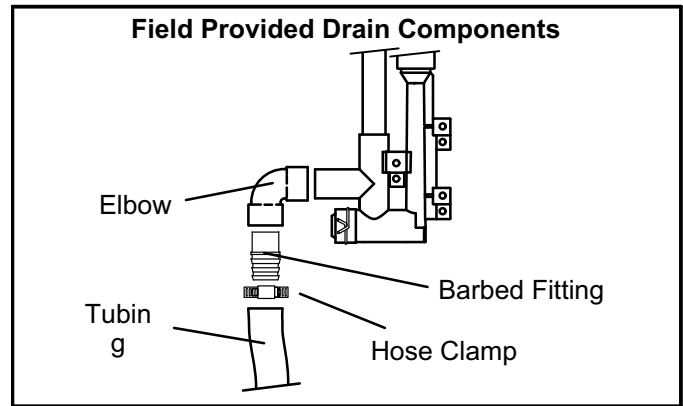

FIGURE 45
**NOTE** - Appropriately sized tubing and barbed fitting may be used for condensate drain. Attach to the drain on the trap using a hose clamp. See figure 45.